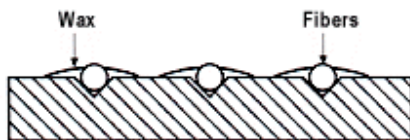

Figure 37
- The fibers were wax mounted in the V-grooves (figure 37).